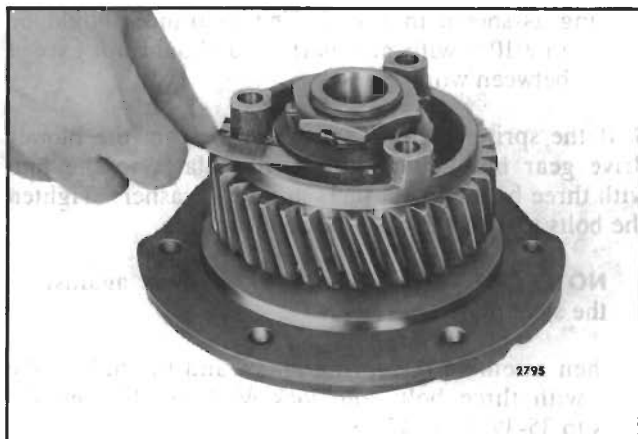

Fig. 5 - Checking Clearance Between Blower Drive Gear Support Thrust Washer and Thrust Bearing
7. Check the clearance between the blower drive gear support thrust washer and the blower drive gear thrust bearing (Fig. 5). The clearance should be .003 " to .017 " with new parts and should not exceed .019 " between worn parts.